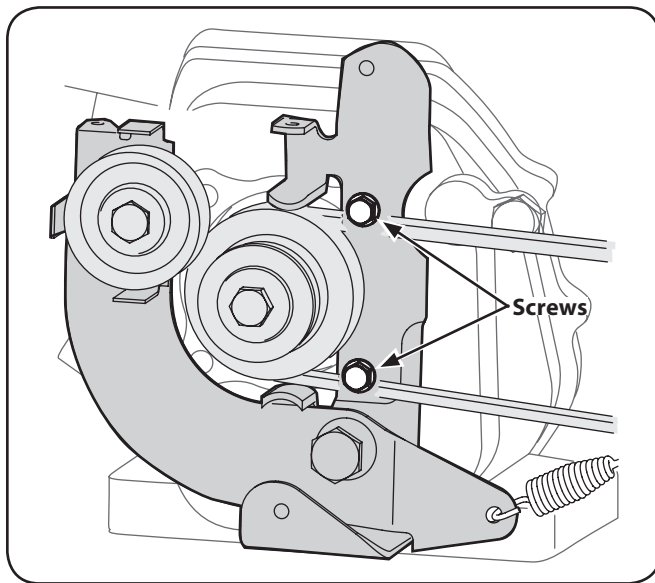

Figure 7-5
4. The forward idler belt will not clear the belt keepers near the engine pulley. You must remove the reverse idler bracket to allow the belt to move off of the engine pulley. Remove the two securing screws and move the bracket toward the transmission pulley. Retain the screws for reassembly. See Figure 7-5.